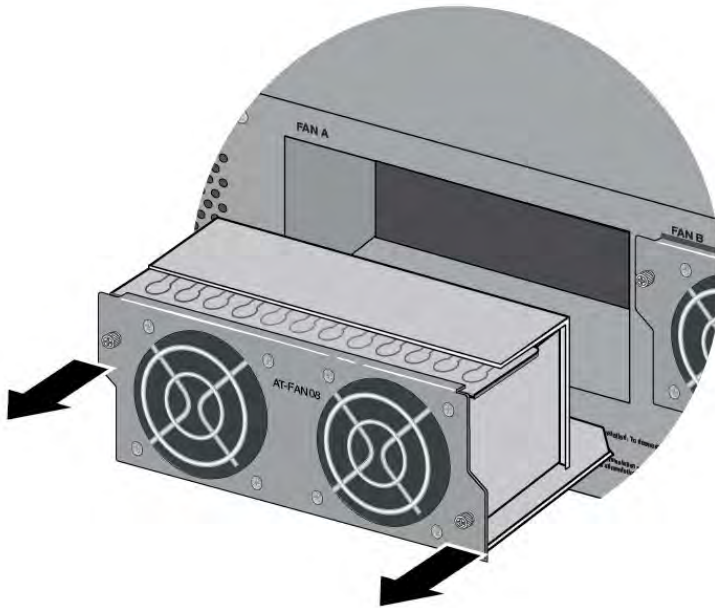

Figure 99. Disconnecting and Removing the FAN08 Module from the Chassis
- Carefully pull on the screws on the faceplate to disconnect the module from the connector on the backplane in the chassis, and slide the module from the chassis. Refer to Figure 99.